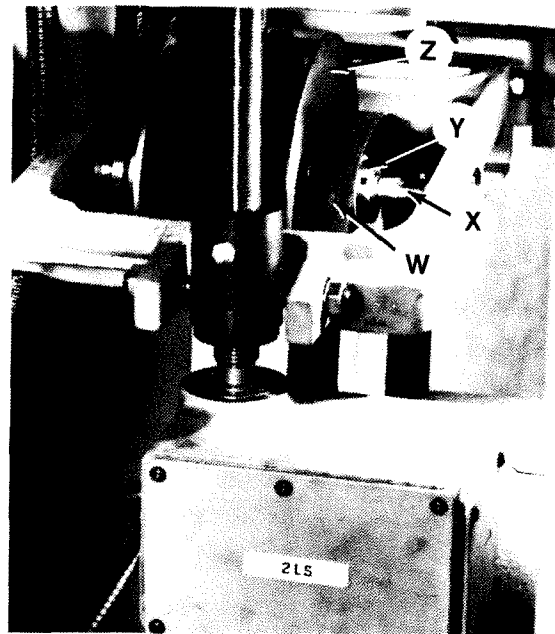

Figure 4.10 - Motor Belt on Pulley Hub
13. Roll motor belt "W" to the right off pulley assembly "Z" and let it rest on pulley hub "Y", Figure 4.10 .
20. Slide countershaft assembly "X", Figure 4.10, to the extreme right and remove the headstock belt over the left end of the countershaft.
10. Slide the headstock belt over the left end of countershaft assembly "X" and onto the left pulley on pulley assembly "Z", Figure 4.10 .
21. Install motor belt "W" on the right pulley on pulley assembly "Z", Figure 4.10 .